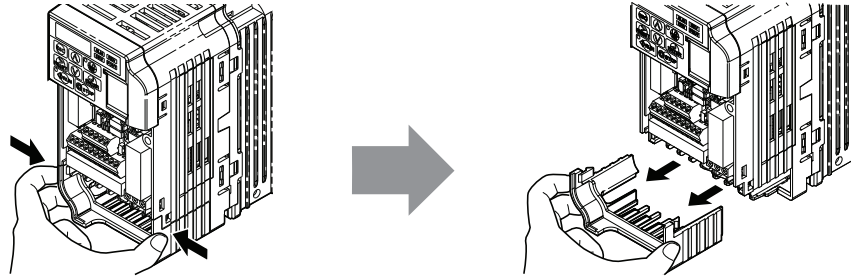
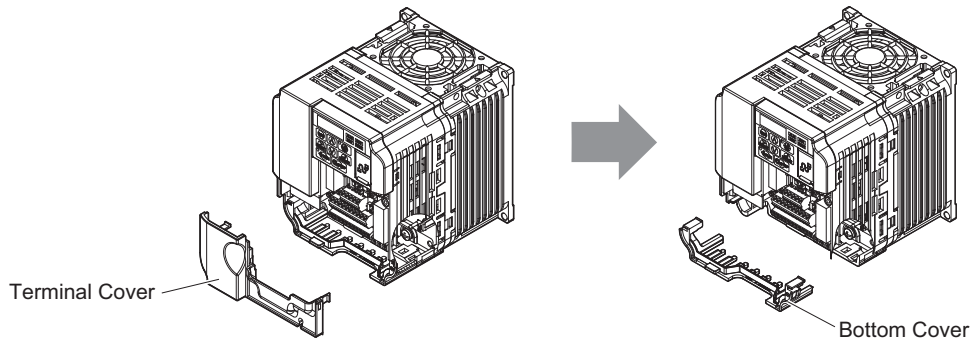

Figure 5 Remove the Bottom Cover on an IP20/Open-Chassis Drive (Models CIMR-V□BA0001B to BA0003B and 2A0001B to 2A0006B)
Figure 6 Remove the Terminal Cover and Bottom Cover on an IP20/Open-Chassis Drive (Models CIMR-V□BA0006B to BA0018B; 2A0008B to 2A0069B; 4A0001B to 4A0038B)
- For IP20/Open-Chassis models CIMR-V□□A□□□□B, Remove the bottom cover of the drive by applying pressure to the tabs on each side of the bottom cover. Pull the bottom cover away from the drive while pushing in on the tabs to release the cover from the drive. Refer to Figure 5 for details. Refer to Figure 6 for drive models CIMR-V□BA0006B to BA0018B, 2A0008B to 2A0069B, and 4A0001B to 4A0038B, which require removing the terminal cover prior to removing the bottom cover.